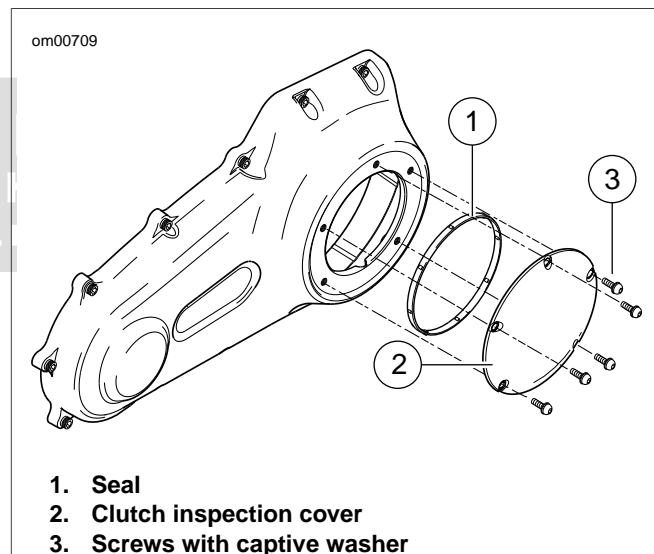

Figure 1-15. Clutch Cover
6. See Figure 1-15. Remove five TORX screws with captive washers (3) to detach clutch inspection cover (2) from primary chaincase cover.
7. Remove the seal (1). Wipe oil from groove in chaincase cover and mounting surface.
- b. See Figure 1-15. Position **new** seal (1) in groove in clutch inspection cover and press each of the nubs on seal into the groove. The nubs will retain seal in position.
- b. See Figure 1-15. Position seal (1) in groove in primary chaincase cover and press each of the nubs on seal into the groove. The nubs will retain seal in position.